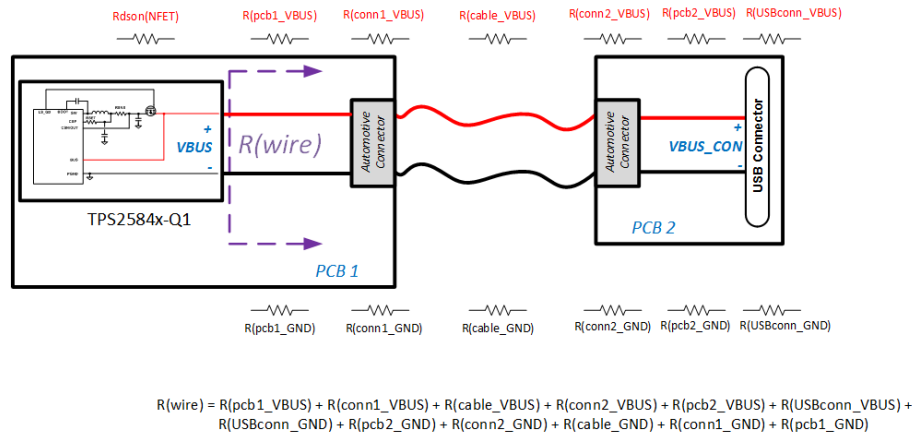

图 47. Automotive USB Resistances
When a load draws current through a long or thin wire, there is an IR drop that reduces the voltage delivered to the load. Cable droop compensation linearly increases the voltage at the CSN/OUT pin of TPS2584x-Q1 as load current increases with the objective of maintaining V_{BUS_CON} (the bus voltage at the USB connector) at 5 V, regardless of load conditions. Most portable devices charge at maximum current when 5 V is present at the USB connector. 图 47 provides an example of resistor drops encountered when designing an automotive USB system with a remote USB connector location.
- Cable compensation: Total resistance including cable resistance, contact resistance of connectors, TPS2584x-Q1 current sense resistor and external NFET $r_{DS(on)}$ (if used). Refer to 图 47 for examples of resistance in an automotive application.